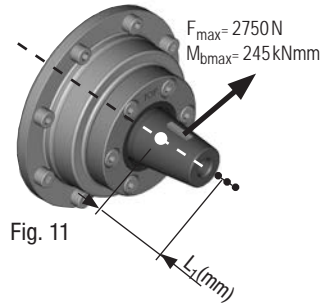

Fig. 11
- The force applied at the force engagement force by the belt tension (see Fig. 11) must not exceed  $F_{\max} = 2750 \text{ N}$ .
- If the force engagement point shifts forwards (see Fig.11, small point), the force  $F_{\max}$  reduces as per the following formula: